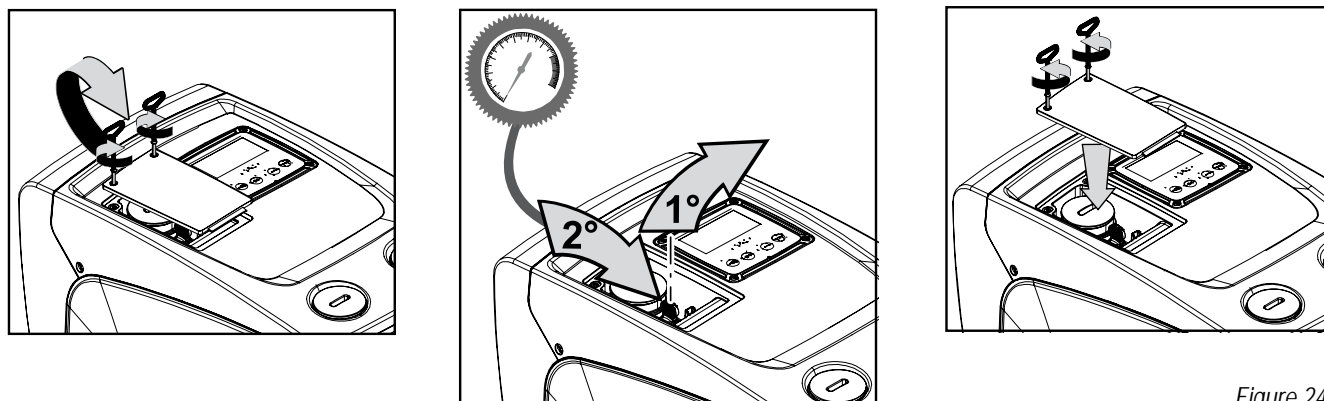

Figure 24
1. remove the access door to the special maintenance compartment (Fig.1 Face F) disengaging the 2 fixing screws with the accessory tool. It is advisable not to remove the screws completely, so that you can use them to extract the door. Take care not to drop the screws inside the system once you have removed the door (Fig. 24);
2. slip the rubber cap off the valve of the expansion vessel (Fig. 24);
3. regulate the valve as indicated in paragraph 1.2 (Fig. 24);
4. reposition the rubber cap (Fig. 24);
5. reposition the door and tighten the 2 screws (Fig. 24).